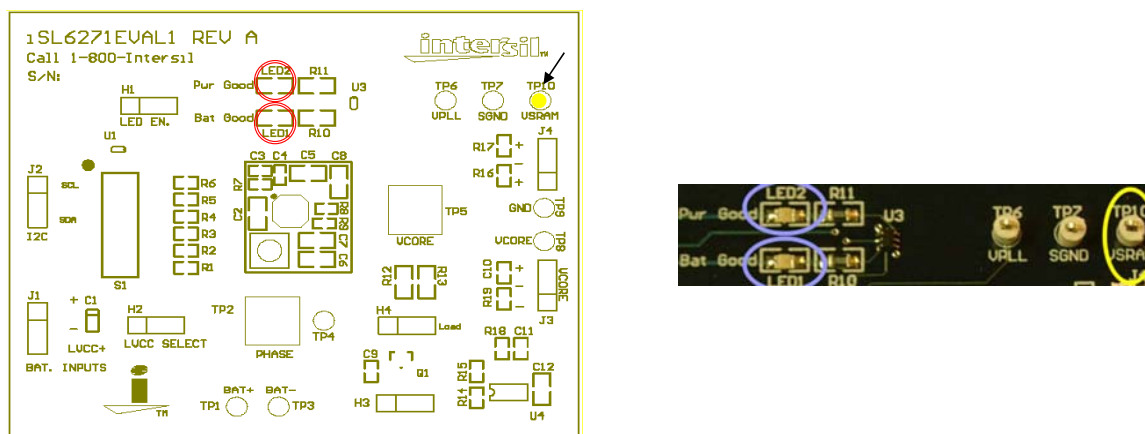

FIGURE 4. OBSERVE LED1, LED2 AND CONFIRM VOLTAGES
- Observe that both LEDs (LED1, LED2) are illuminated, see **Figure 4**.